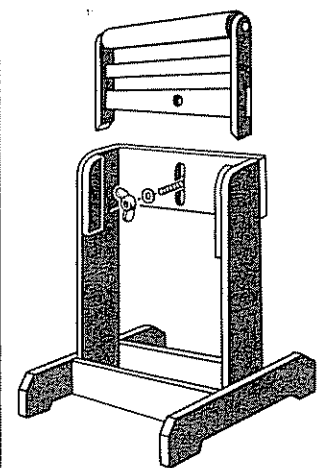

Figure 61
6. Do not leave a long board unsupported so that the spring of the board causes it to shift on the table. Use a support to catch end of board behind the blade. If board is quite long, use another support in front of saw blade. (Figure 61 shows one type of support that is adjustable for height and easily constructed.)